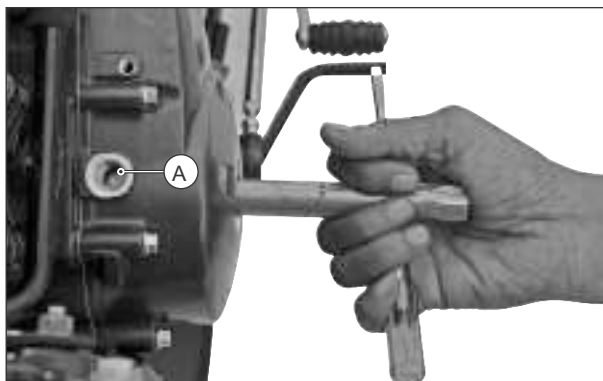

Fig. 3.76
- Ensure that the transmission is in neutral and align the TDC mark (A) on rotor assembly with center of the inspection hole provided in the cover magneto by rotating the rotor assembly. (Fig. 3.76)